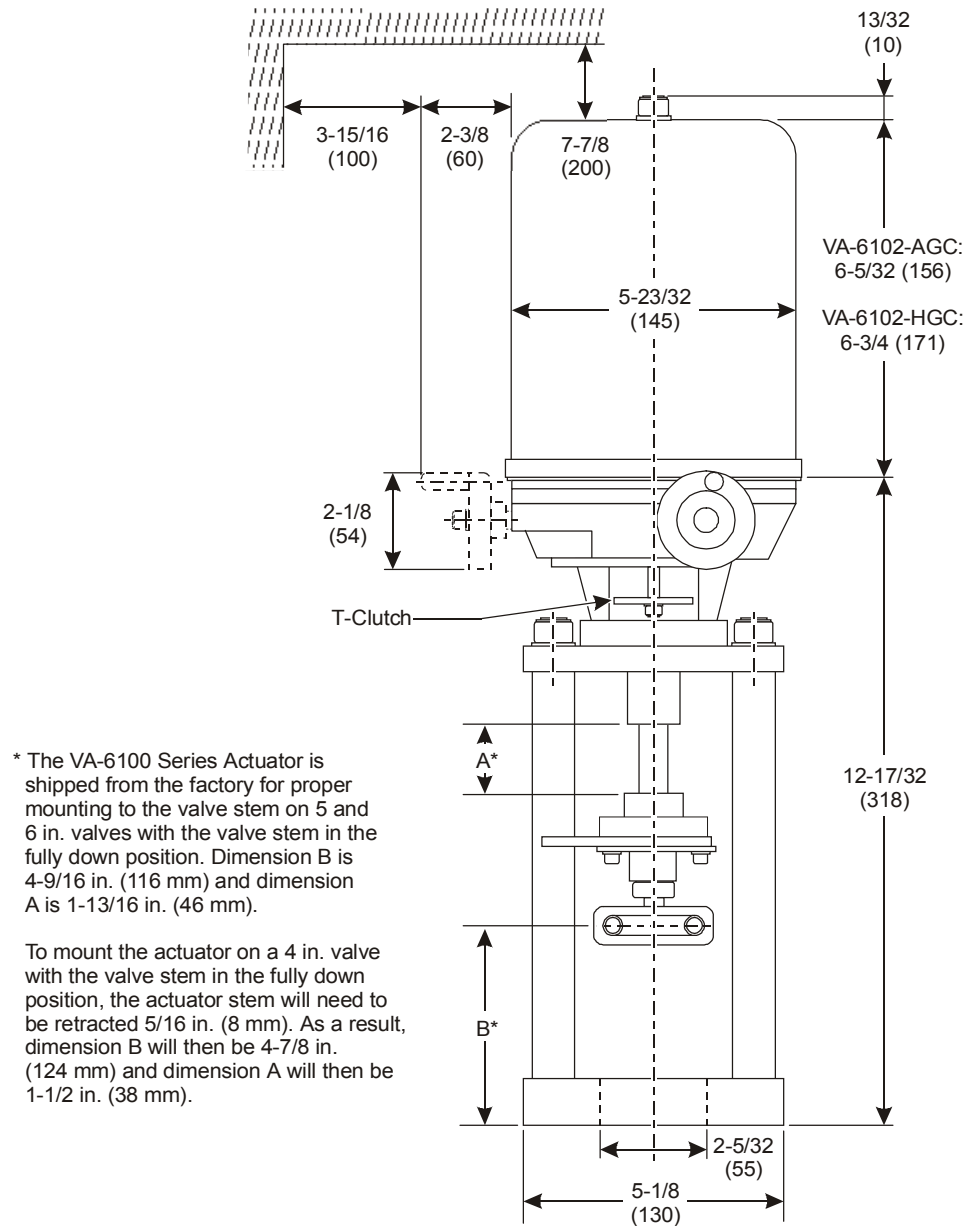

**Figure 2: Circuit Board Parts Identification**
3. Pull the action plug from the actuator circuit board (as illustrated in Figure 2), rotate it 180°, and plug it back into the circuit board.
**To adjust the operating range** of the VA-6100-HGC Electric Valve Actuator, refer to Figure 2 and proceed as follows:
- d. Locate Potentiometer B on the actuator circuit board (as illustrated in Figure 2) and adjust it until the voltmeter reads 0.35 V above the minimum control signal or the current meter reads 0.7 mA above the minimum control signal. The actuator should fully retract.
- g. Locate Potentiometer A on the actuator circuit board (as illustrated in Figure 2) and adjust it until the voltmeter reads 0.35 V below the maximum control signal or the current meter reads 0.7 mA below the maximum control signal. The actuator should fully extend.
- d. Locate Potentiometer A on the actuator circuit board (as illustrated in Figure 2) and adjust it until the voltmeter reads 0.35 V below the maximum control signal or the current meter reads 0.7 mA below the maximum control signal. The actuator should fully retract.
- g. Locate Potentiometer B on the actuator circuit board (as illustrated in Figure 2) and adjust it until the voltmeter reads 0.35 V above the minimum control signal or the current meter reads 0.7 mA above the minimum control signal. The actuator should fully extend.